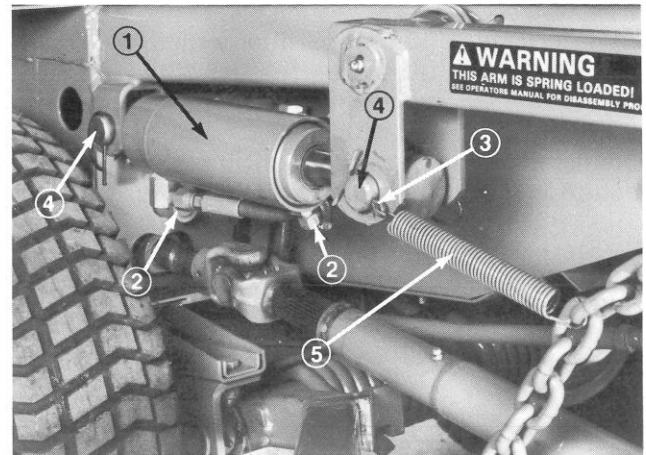

Figure 67
2. Remove hoses from lift cylinder (Fig. 67) and cap the hoses to prevent contamination.
3. Remove hair pin cotters and spring from cotter pin. Remove pins and slide cylinder from between the lift arm and the stationary mounting bracket (Fig. 67).
4. Install new cylinder with pins, and assure the cotter pin (Fig. 67) securing moveable end of cylinder is to the outside. Hook chain tension spring through eye of cotter pin.